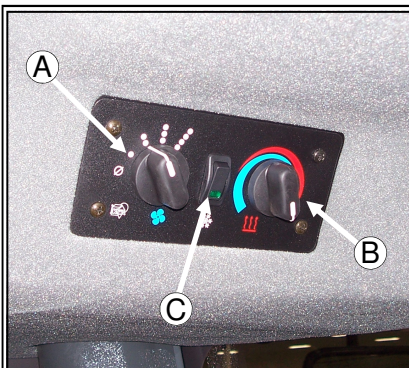

FIG. 27-4
**CLIMATE CONTROLS** - The climate controls (fig. 27-4) are continuously adjusting dial switches located on the front upper cab headliner.
**Adjusting Fan Blower Speed**– fan blower speed is controlled by the left rotary dial (fig. 27-4, item A). To increase the fan speed, rotate the dial clockwise. To reduce the fan speed, rotate the dial counterclockwise. To shut the fan off, rotate the dial all the way counterclockwise.
**Adjusting Temperature Setting**– forced air temperature adjustments are controlled by the right rotary dial (fig. 27-4, item B). Temperature control is a continuously variable adjustment. To increase the forced air temperature, rotate the dial clockwise. To decrease the forced air temperature, rotate the dial counterclockwise.
**Operating the Air Conditioning**– to activate the air conditioner, press the air conditioning switch (fig. 27-4, item C). Adjust fan speed and temperature accordingly. See section B under SERVICE for servicing information.